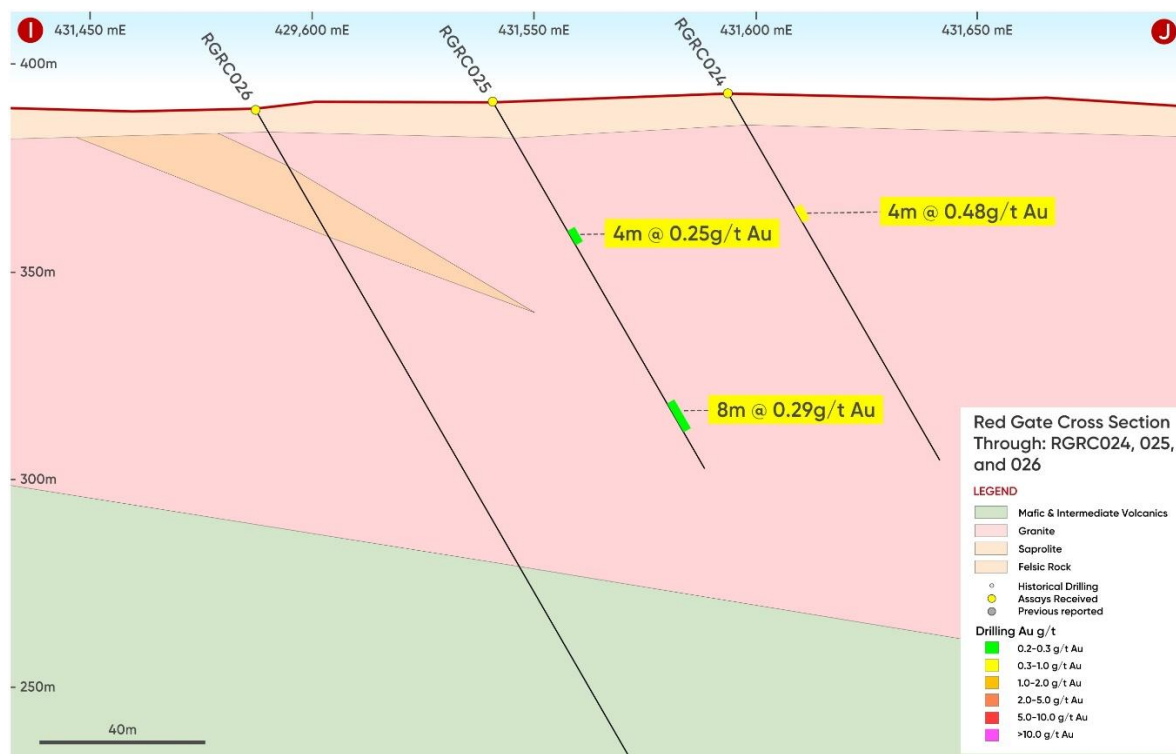

Figure 9. Cross section of Grunters drilling.
- 8m at 0.29g/t Au from 84m and 4m at 0.25g/t from 34m in RGRC025 (see Figure 9).